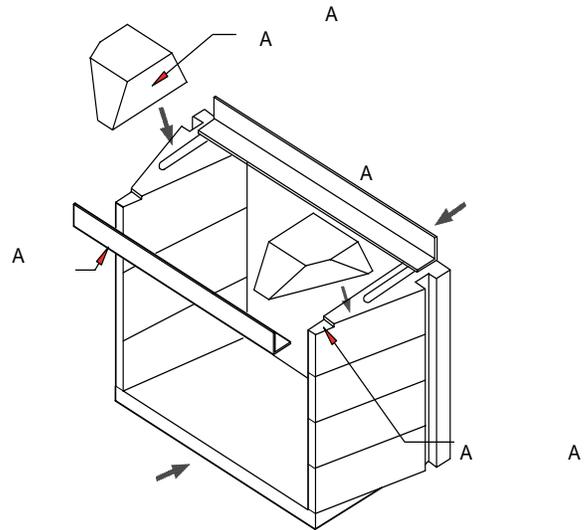

FIGURE 74
2) The firebox back wall components are not used. The firebox side walls are set, reversed from their normal position, their flared faces set to the outside of the firebox. (Figure 74)
3) Once the side wall assembly is complete it is necessary to place a steel angle minimum 4”x 4”x 3/8” across each face of the two sided opening before building the smoke dome assembly. Notch the ends of each sidewall equal to the thickness of the steel as shown. Each end of the steel angles must bear fully at least 3” onto the side wall assembly. (Figure 74)